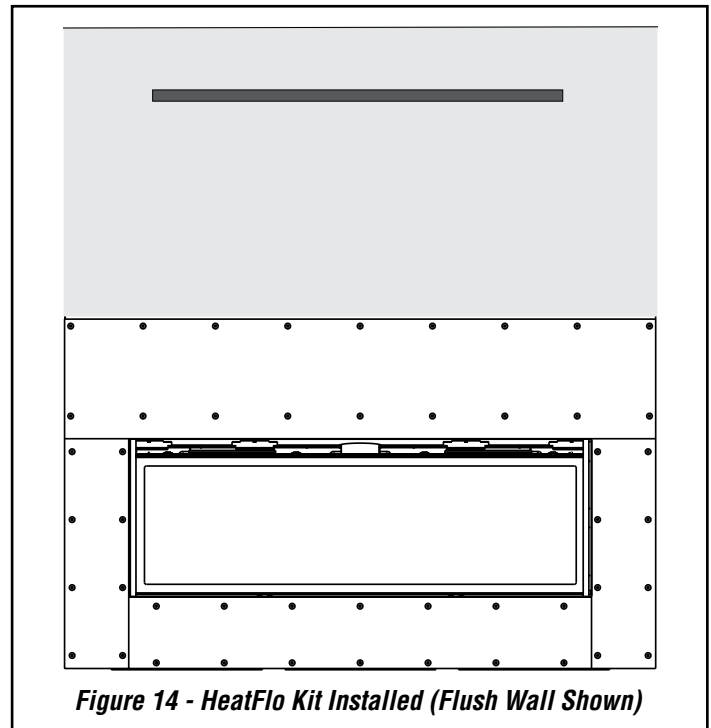

Figure 14 - HeatFlo Kit Installed (Flush Wall Shown)
1. Using 1" self drill bugle drywall screws (supplied), install non-combustible fireboard at bottom, sides and top of fireplace face (see **Figure 14**).